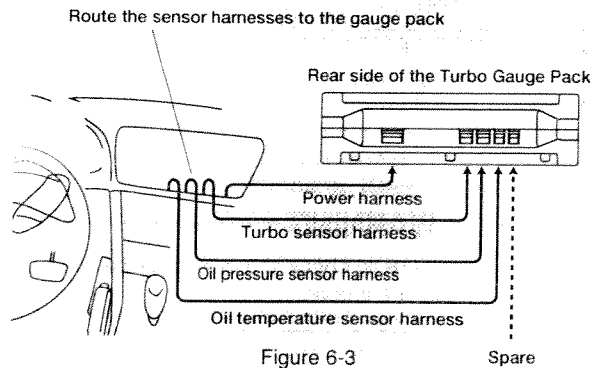

Figure 6-3
4. Connect the sensor harnesses and the power harness as shown in the figure. (Figure 6-3) (Secure the storage box light harness which is no longer used to harness using electrical tape.) They are color coded, match the connector colors. Attach the Turbo Gauge Pack assembly to the inner dash using clips on brackets and with two screws provided.